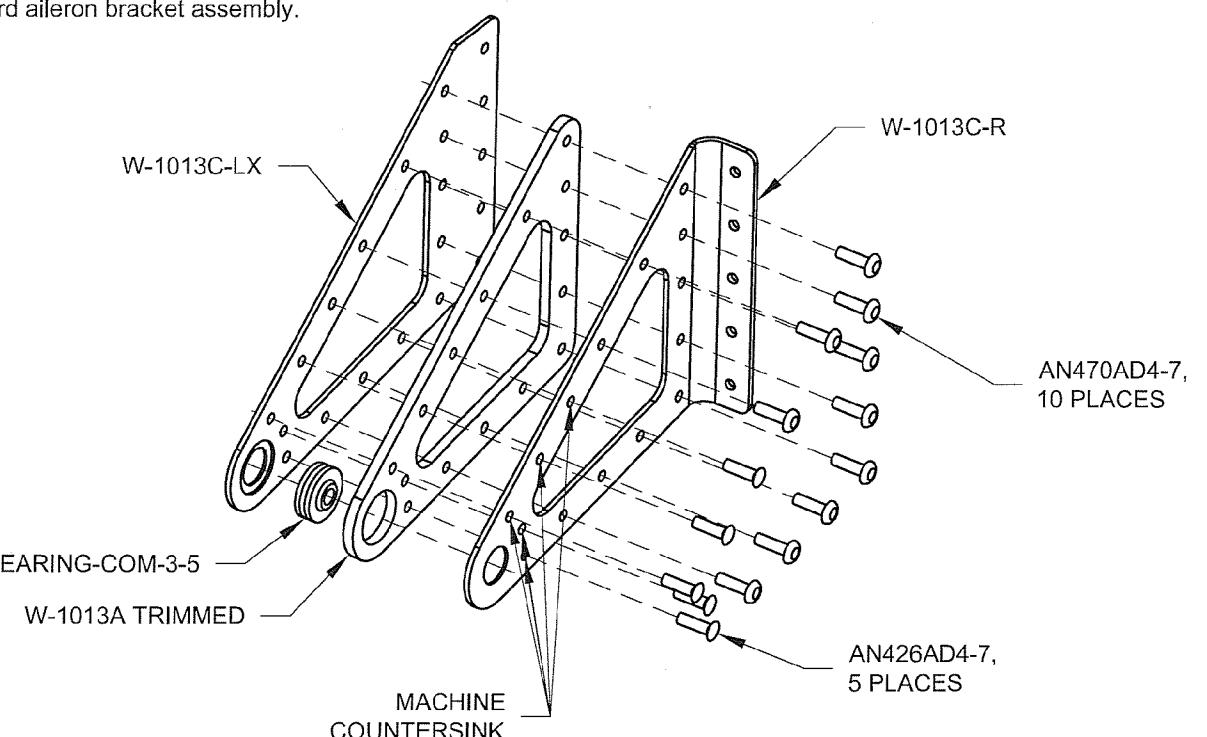

FIGURE 3: OUTBOARD AILERON BRACKET ASSEMBLY
Step 3: Cleco the W-1013A TRIMMED Aileron Hinge Bracket Spacer, W-1013C-LX and W-1013C-R Aileron Hinge Bracket Sides together as shown in Figure 3. Match-Drill #30 all common attach holes. Machine countersink the aft holes (as indicated in Figure 3) on the **Inboard** face of the W-1013C-R Aileron Hinge Bracket Side for the head of an AN426AD4 rivet. Repeat this process for the right outboard aileron bracket assembly.
Step 5: Press a BEARING-COM-3-5 into all W-1013A and W-1013A TRIMMED Aileron Hinge Bracket Spacers as shown in Figure 2 and Figure 3. Use a 7/16 inch, 3/8 inch drive socket to push and a 9/16 inch, 3/8 inch drive socket to push into. Squeeze with a vise or c-clamp.